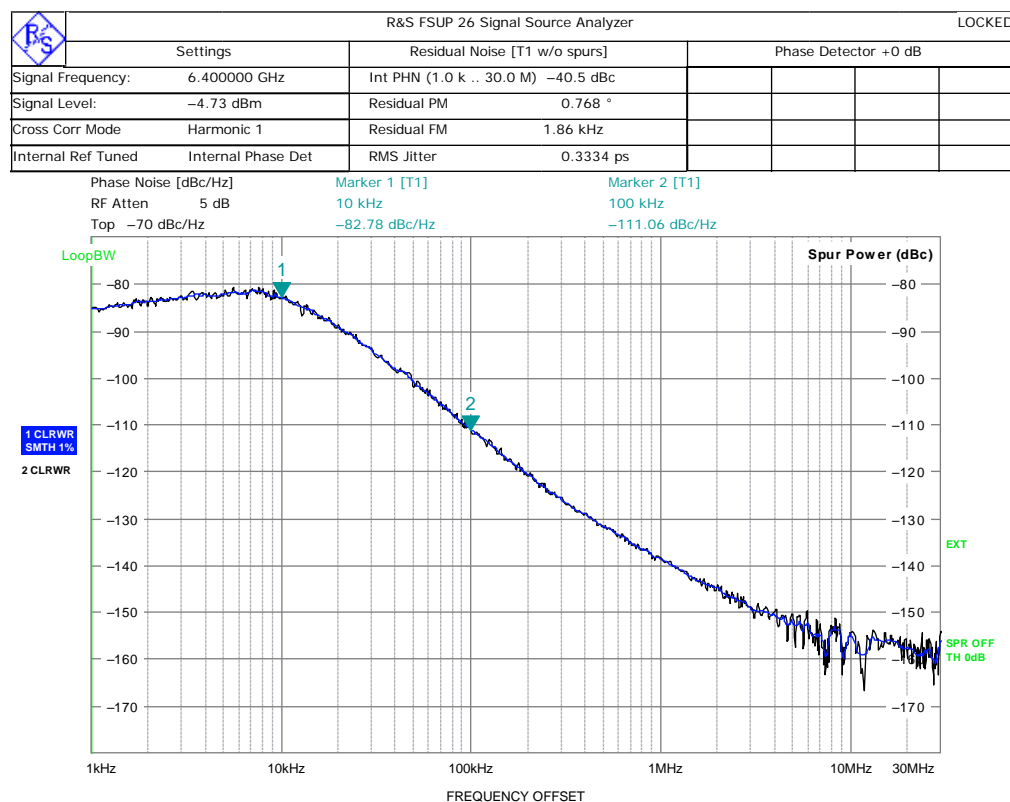
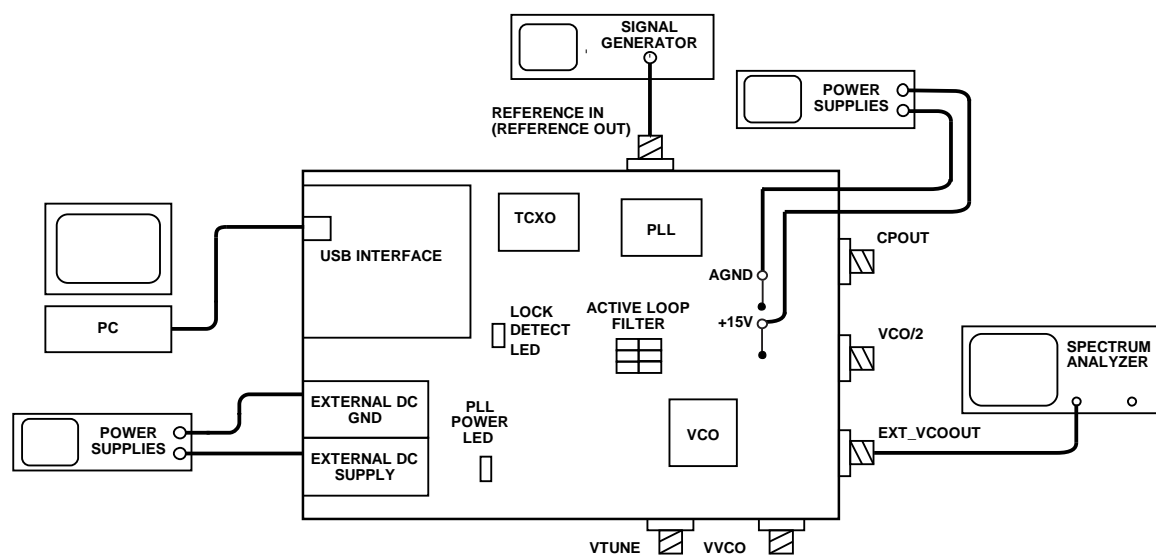

Figure 5. Spectrum Analyzer Display
Figure 6. Typical Evaluation Setup
10. In the **Main Controls** tab in the main window of the evaluation board software, set the VCO center frequency in the **RF VCO Output Frequency** text box (the example in Figure 5 uses a 6.4 GHz VCO). Set the **PFD Frequency** text box as specified in ADIsimPLL, and program the **Reference Frequency** value to equal the reference connected to the REFIN SMA Connector (or the TCXO). See Figure 6 for the suggested setup.
11. Measure the output spectrum. Figure 5 shows 6.4 GHz phase noise output.